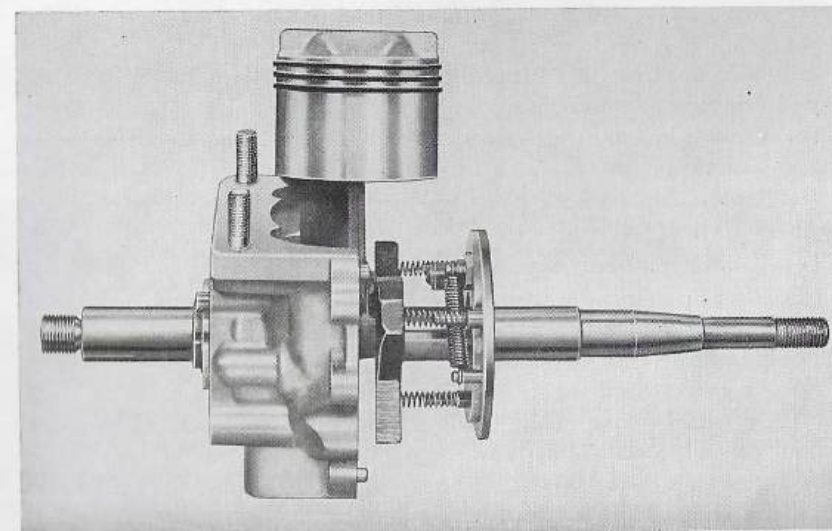

Figure 28—Assembling Governor
(3) Assembling Governor (Figure 28).